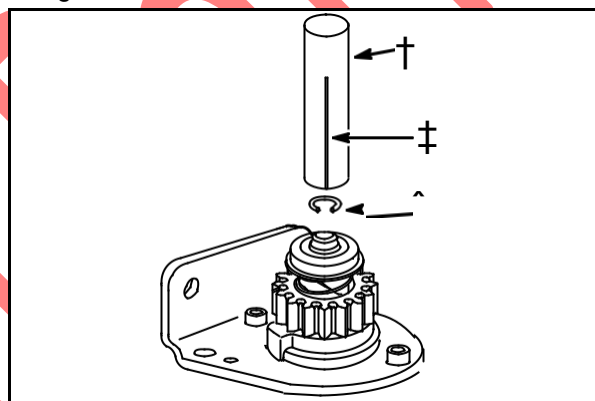

Fig. 9
Place C-ring (8) over chamfered end of shaft. Align one of the slots (7) of C-ring Installer #19435 (6) with open end of C-ring, **Fig. 9**. Press or drive C-ring on until it snaps into groove in shaft.